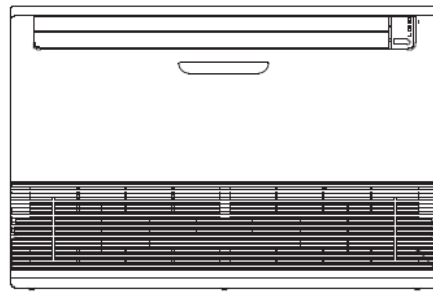

Figure 13.1
- The filter is housed in the lower part of the unit in Figure 13.1.